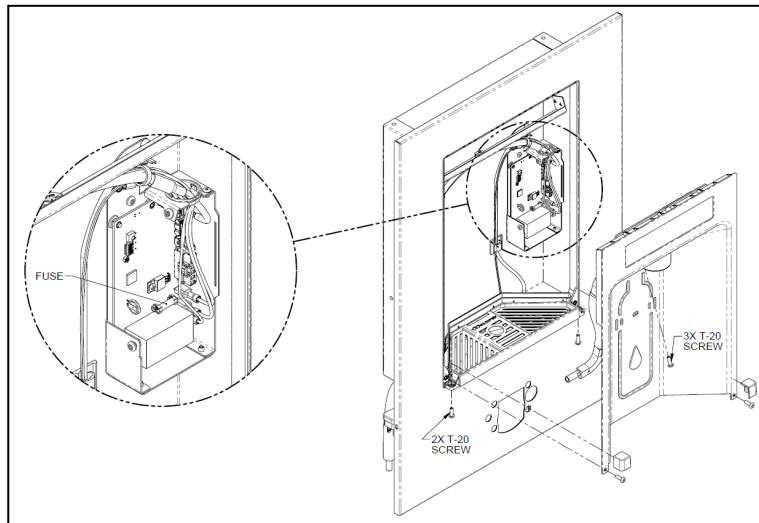

Figure 3 Fuse Replacement on Main Board, Behind Bottle Filler Alcove
3. Remove (2) T20 Torx screws underneath the molded corner covers on both the left and right side of the bottle filler platform. See Figure 3. NOTE: for 1109/1119 models, fountains must be removed to access these screws.
4. Remove (2) T20 Torx screws behind molded corner covers and (1) T20 Torx screw behind bottle filler nozzle.
6. Remove (2) T20 Torx panel screws securing main board cover.
8. Replace fuse according to the following table. (2) Spare Fuses are included inside bottle filler enclosure. Make sure fuse is centered in clips before pressing into place.